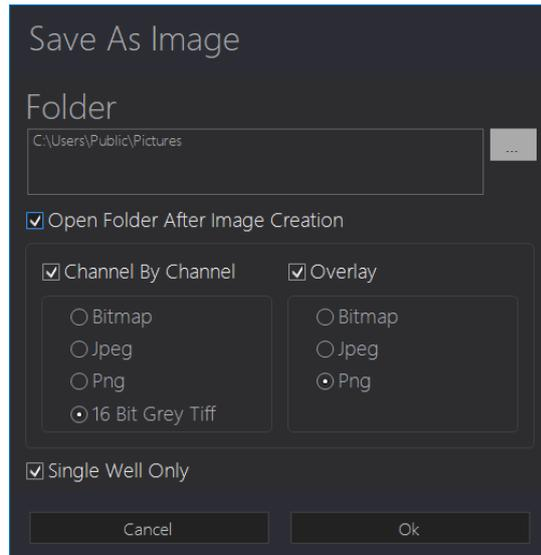

Figure 4 | Sub-menu for saving and exporting individual images
- 3) **'Store Images'** (via image symbol): Opens a pop-up window that allows to store/save currently displayed image views as *\*.bmp*, *\*.png*, *\*.jpeg* or 16-bit Tiff. By default, a subfolder within the currently opened experiment is used, but it can be freely defined. Images can be saved for individual wells or entire experiments either channel-by-channel or as RGB overlays using the different available options (see Figure 4).